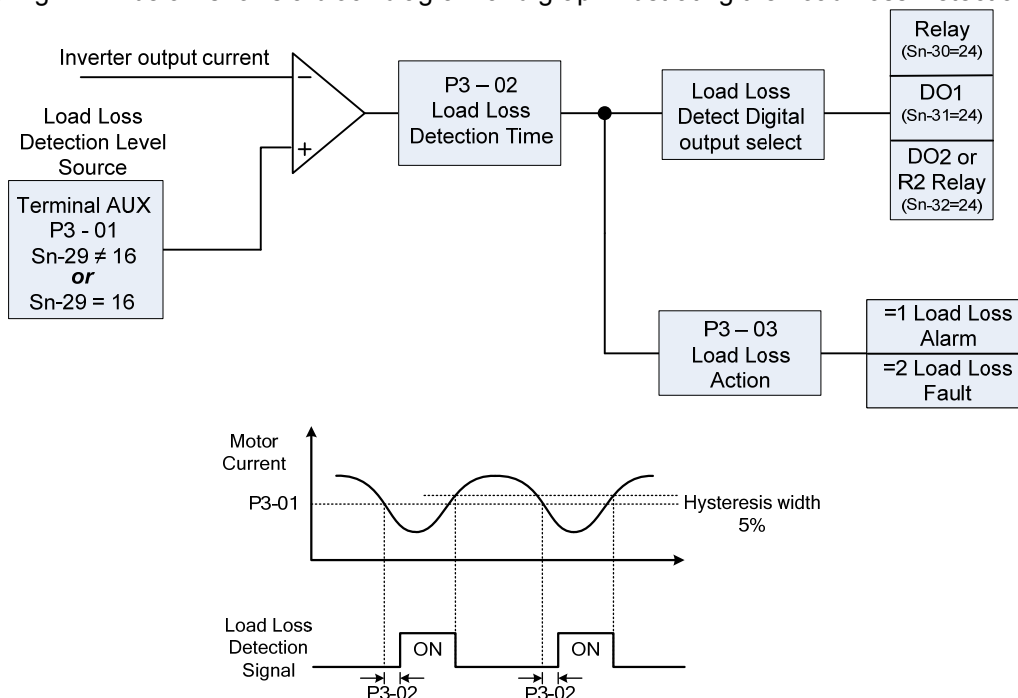

Fig. 1.4.2 Load Loss Detection Function
- The Fig. 1.4.2 below shows a block diagram and graph illustrating the Load Loss Detection Function.